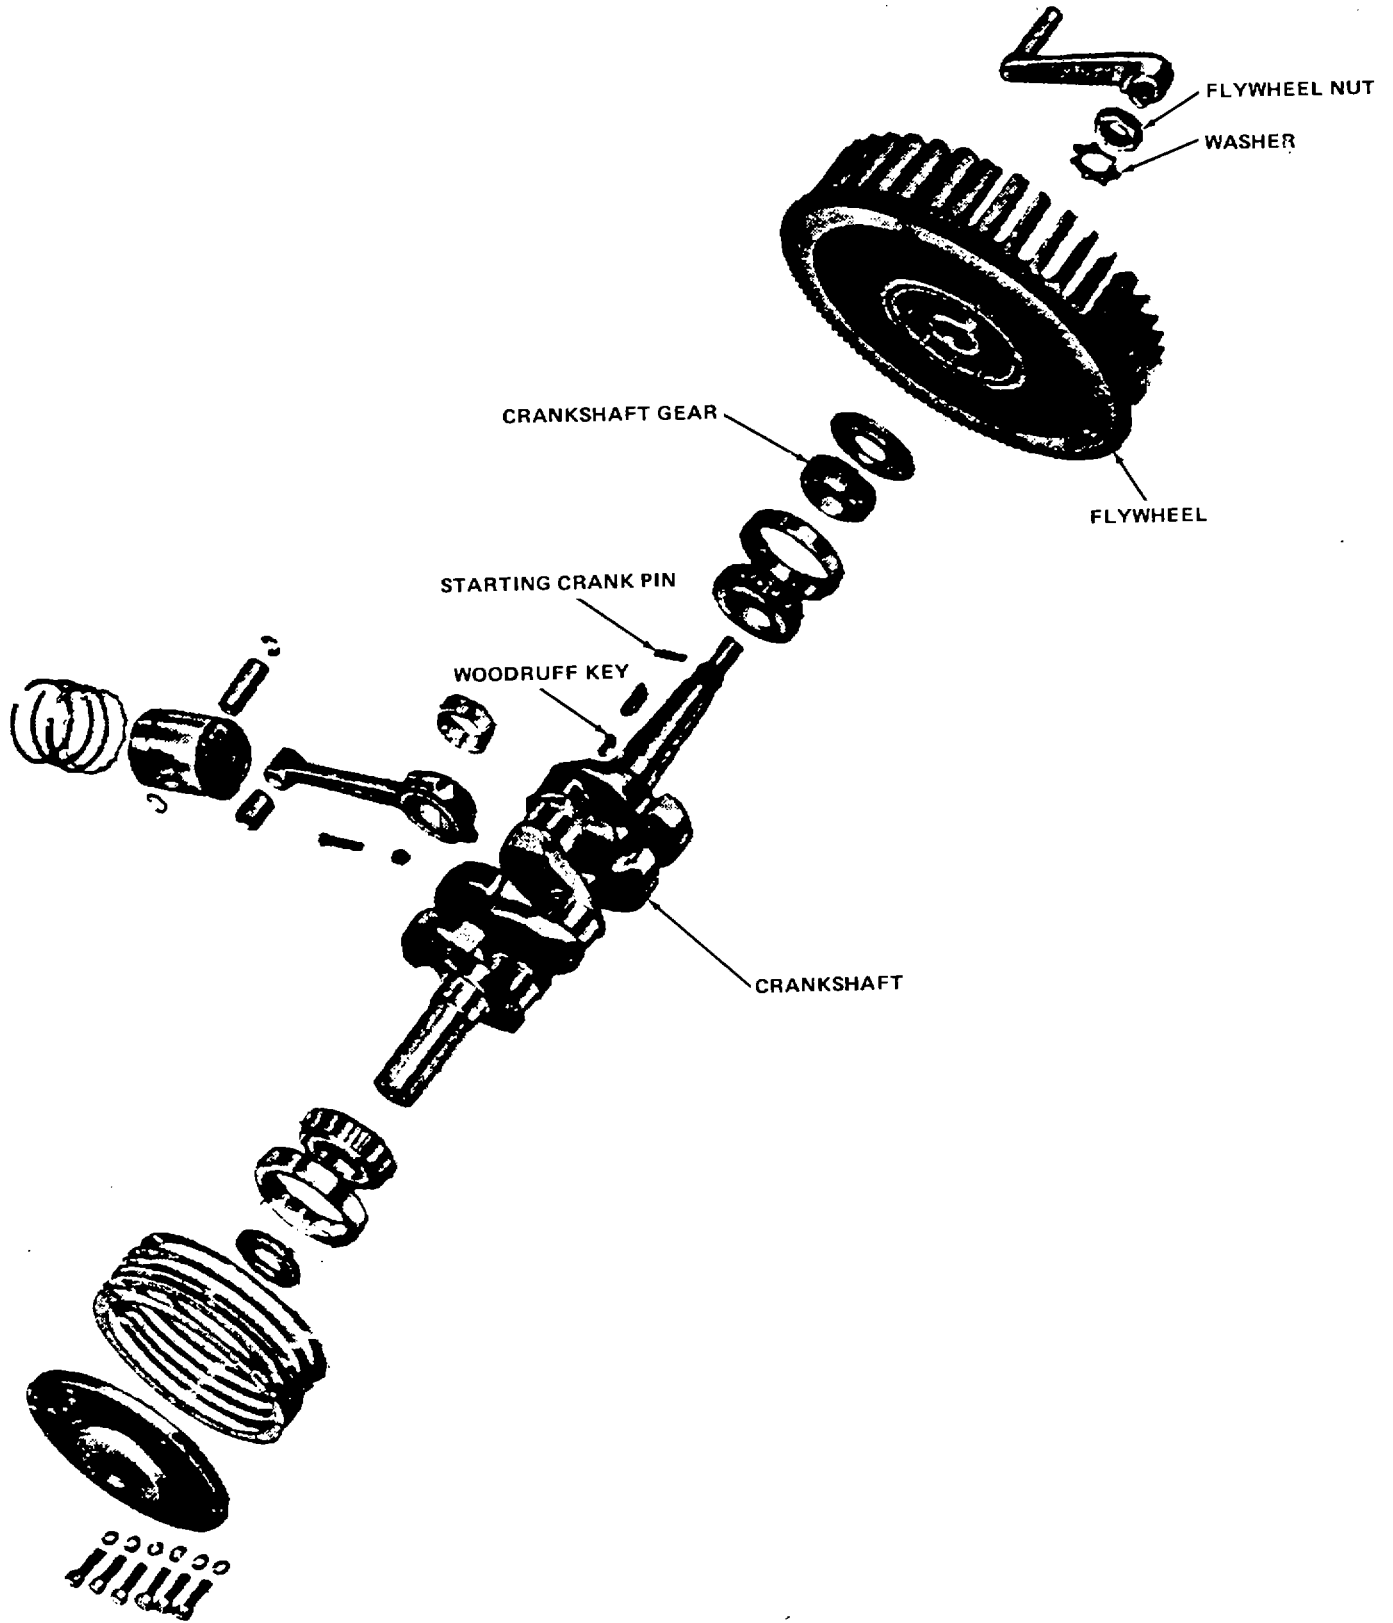

Figure 6-11. Crankshaft Assembly
(1) Drive starting crank pin out of crankshaft. (Figure 6-11).
(2) Remove flywheel nut and washer.
(3) Pull up and out on rim of flywheel. Rap end of crankshaft with babbitt mallet while pulling on flywheel. Repeat until flywheel is free.
(4) Remove flywheel from engine.